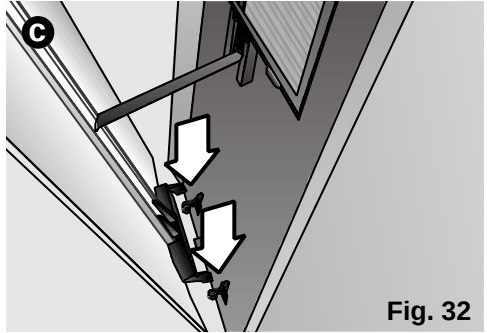

Fig. 32
- 1° Lift the flap until it comes out of its lower supports, (Fig. 32: a).
- 2° Position the plastic leg in the front groove on the appliance (in T position) and slide it down to the safety stop, (Fig. 32: b).
- 3° fit the lower studs in the front stops on the appliance making sure that the plastic leg fitted in the previous step does not come out of position, (Fig. 32: c).